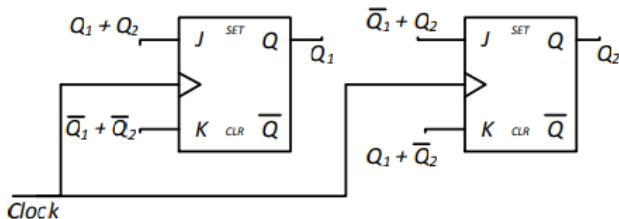

Fig. 5.31
32. A 2-bit synchronous counter using two J-K flip flops is shown in Fig. 5.31. The expressions for the inputs to the J-K flip flops are also shown in the figure. The output sequence of the counter starting from  $Q_1Q_2 = 00$  is